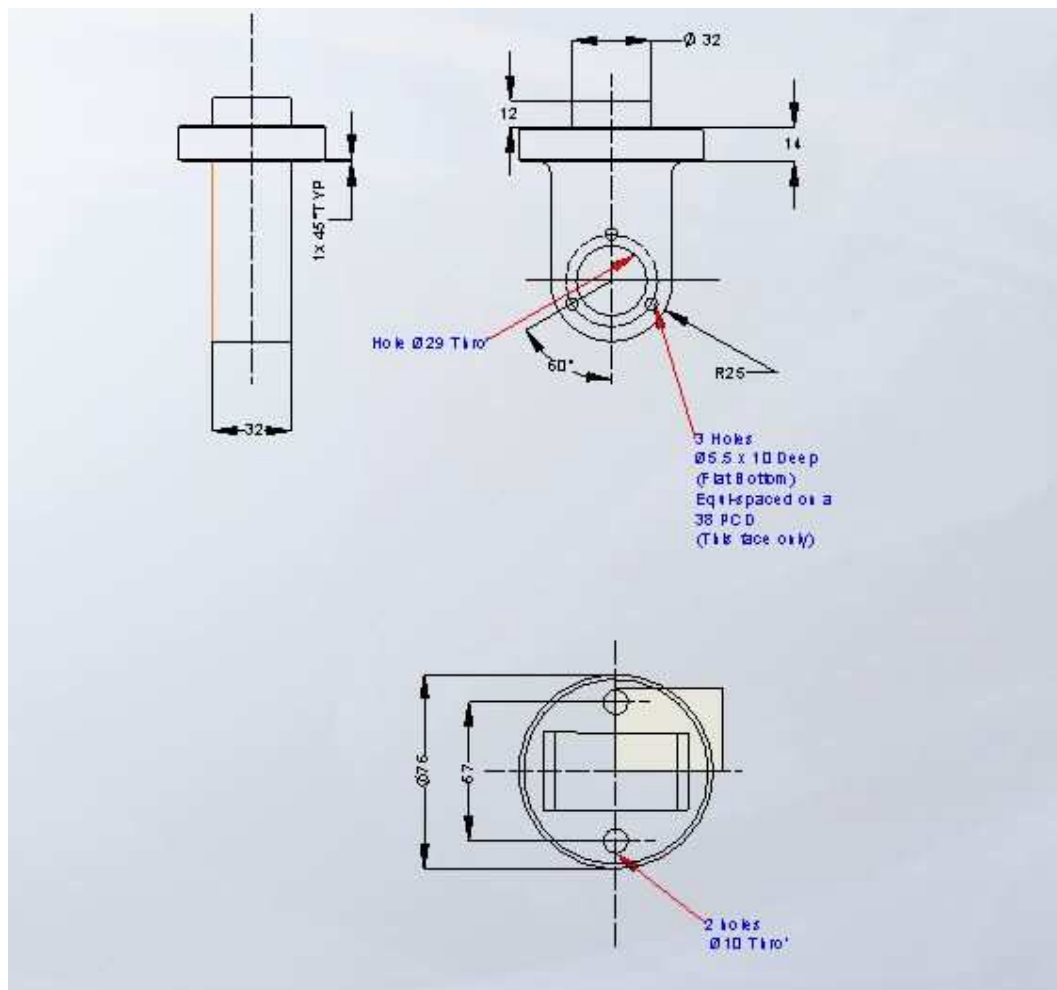

Figure Q5(d)
b) Outline the steps involved in creating a 3-D solid model from the provided information in figure Q5(d) (10 Marks)